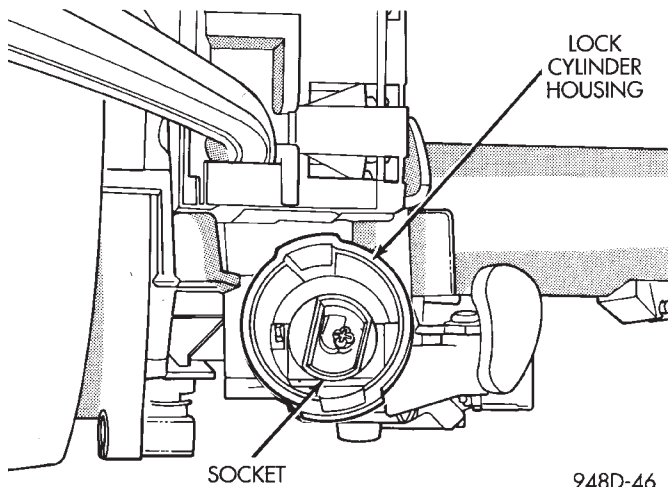

Fig. 74 Socket in Lock Cylinder Housing
- (1) Install key in lock cylinder. Turn key to run position (retaining tab on lock cylinder can be depressed).
- (2) The shaft at the end of the lock cylinder aligns with the socket in the end of the housing. To align the socket with the lock cylinder, ensure the socket is in the Run position (Fig. 74).